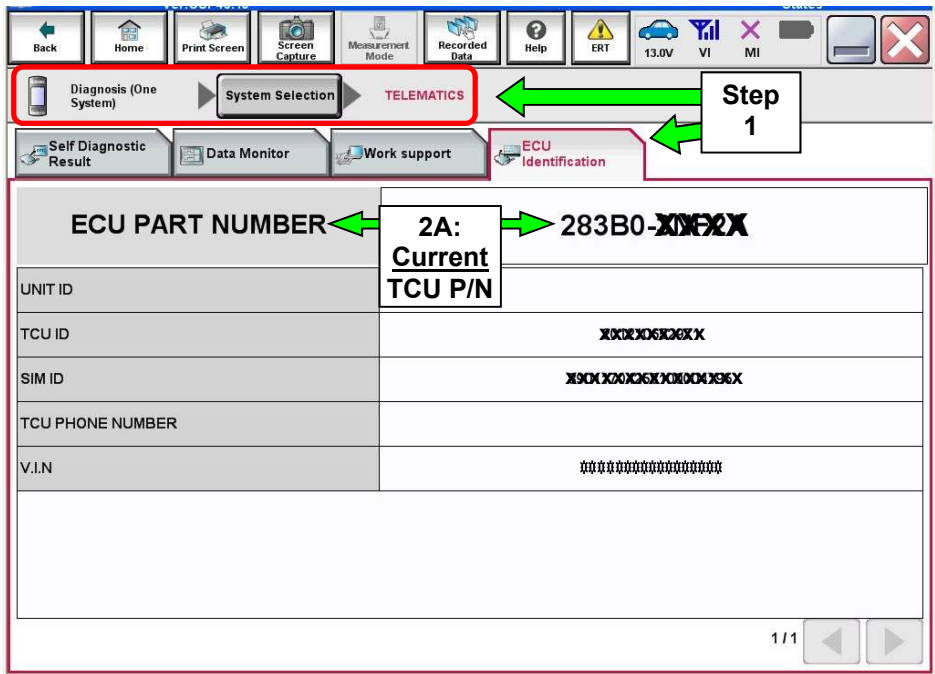

Figure 1
- When you get to the screen shown in Figure 1, confirm this bulletin applies as follows.